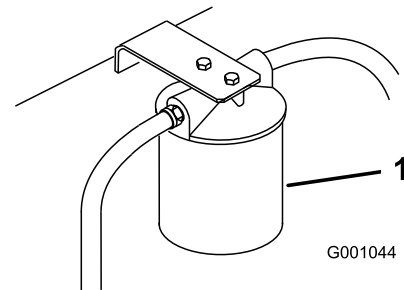

Figure 92
3. Place drain pan under filter, remove the old filter and wipe the filter adapter gasket surface clean (Figure 92).